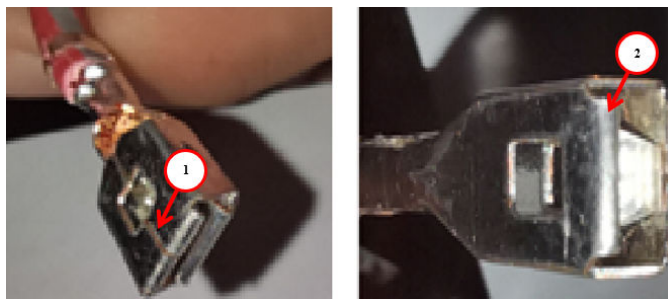

Fig. 6
- Inspect the large and medium pins for a visible seam or a rolled edge Fig. 6.
9. Was a seam noticed when inspect the large and medium pins Fig. 6?